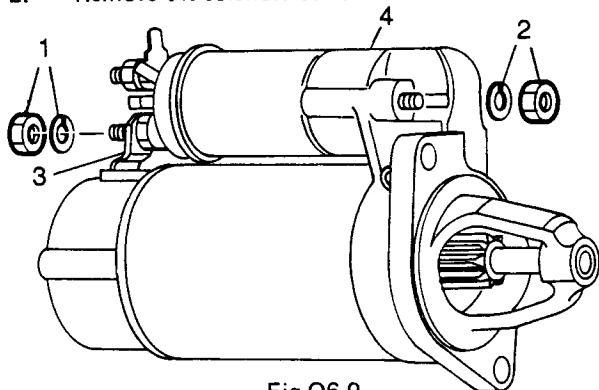

Fig O6.9
- (1) Refer to Fig O6.9. Remove the nut and washer (1) which secures the solenoid-to-starter connecting link to solenoid terminal STA.
- (2) Remove the two nuts (2) and washers securing the solenoid to the fixing bracket.
- (3) Pull back the connecting link (3) from the solenoid terminal and at the same time lift the terminal end of the solenoid clear of the connecting link and withdraw the major part of the solenoid from the fixing bracket (4).